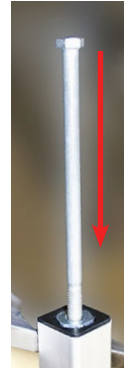

Fig. 8: Insert 7" bolt
2. Temporarily insert the 7" long bolt into a hydraulic leg (Fig. 8).